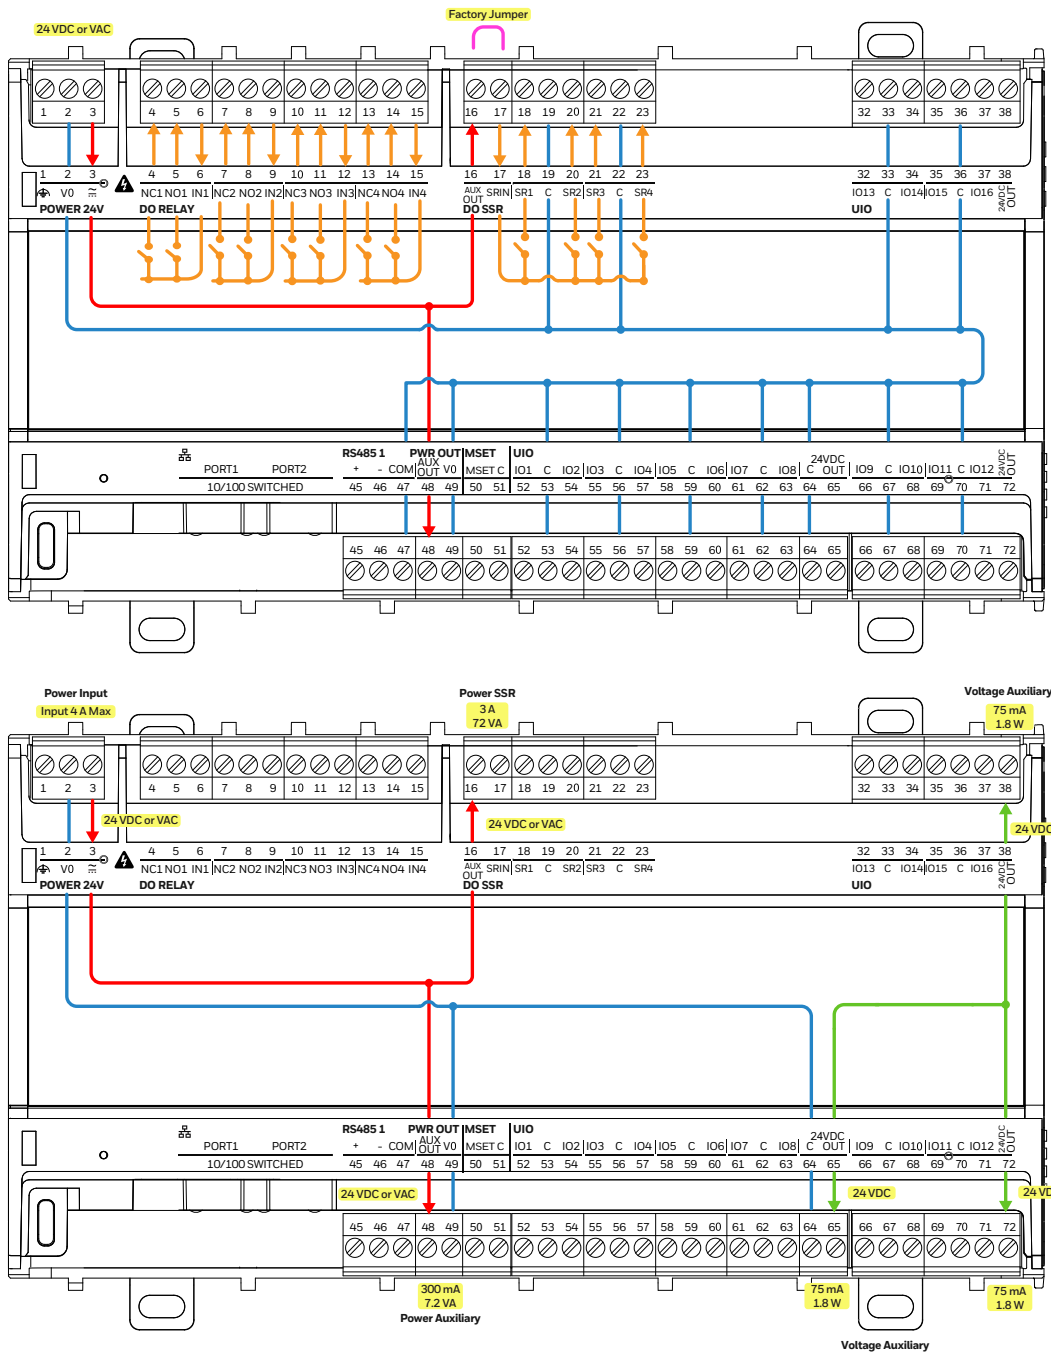

Fig. 10 Internal Wiring Large controller
2. Hold the controller along the wall and mark drilling locations through the screw red clip slots, as shown in figure 10.